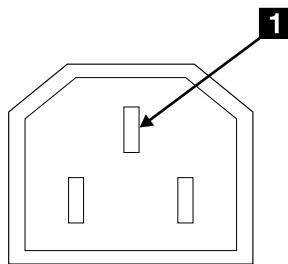

Figure 8. Ground pin (220 V 2104 Model DS4)
5. Check for continuity between the chassis of the 2104 Model DS4 and the ground pin **1** of the power connector on each fan-and-power-supply assembly. See Figure 8.